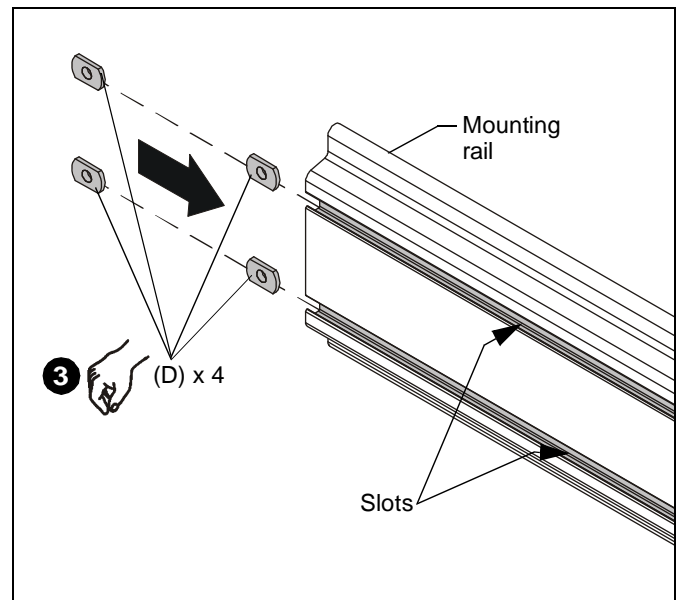

Figure 4
3. Insert four 5/16" T-slot nuts (D) into slots in mounting rail. (See Figure 4)